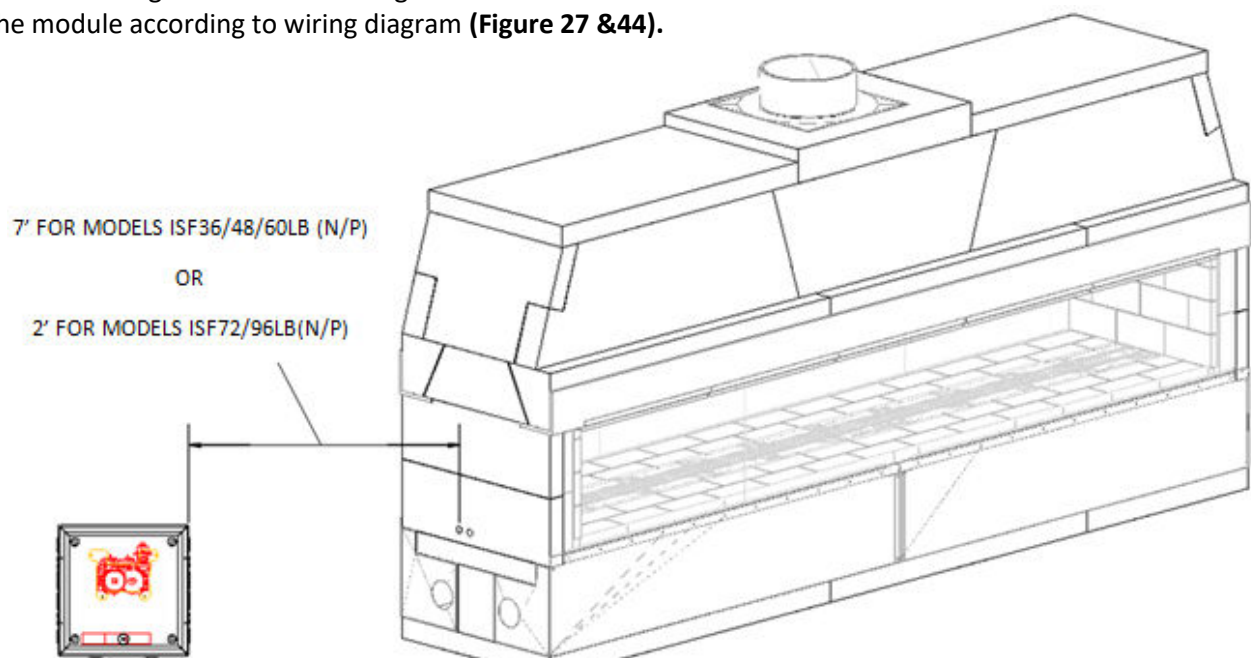

FIGURE 41
- 1) The valve control box comes with an 110" pilot assembly lead; therefore, the box must be mounted within 7' of the fireplace for burner models ISF36/48/60LB (N/P) and within 2' for models ISF72/96LB (N/P). This location should be within 4' (48") of the Meridian Control Panel. Valve controls are contained in a 12" x 12" x 4" NEMA 1 enclosure (**Figure 41**)